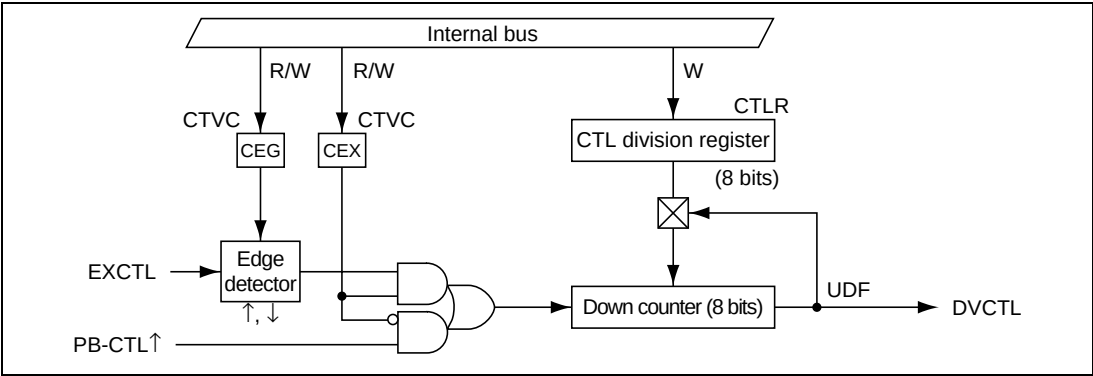

Figure 26.63 CTL Frequency Divider
**Block Diagram:** Figure 26.63 shows a block diagram of the CTL frequency divider.